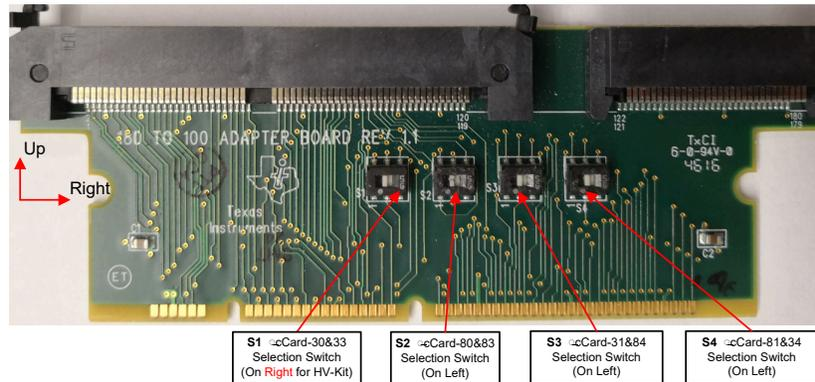

Figure 3-7. TMDSDAP180TO100 Adapter and Switches Setting
- Make sure that switches TMDSDAP180TO100 are set as described below or shown in Figure 3-7.